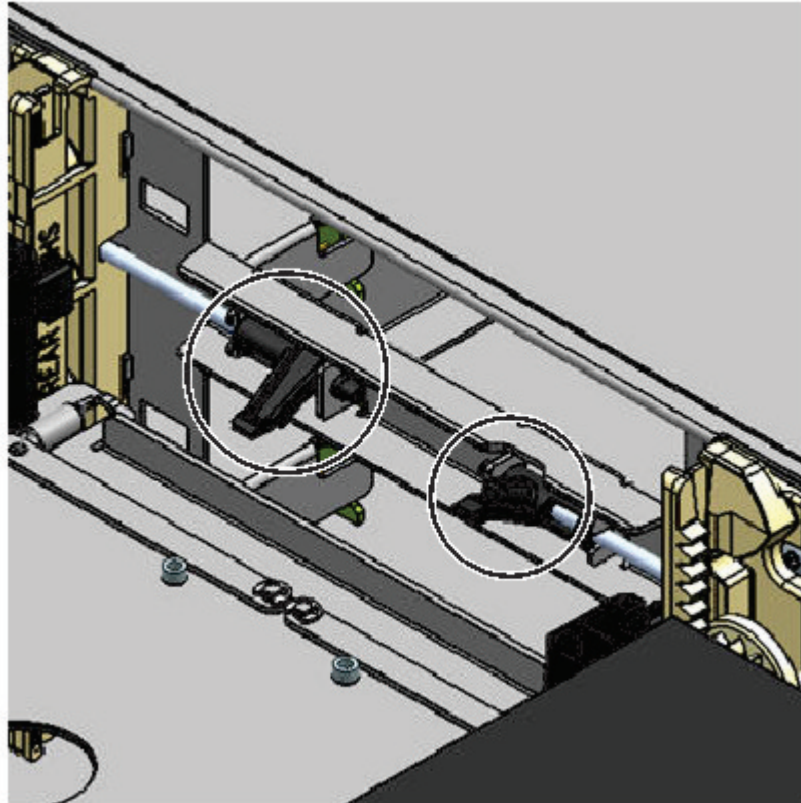

Figure 71. Magazine release levers
1. Remove the left and right magazines by using the magazine release levers (circled in Figure 71 on page 154). Push up on the lever, then pull the magazine out.